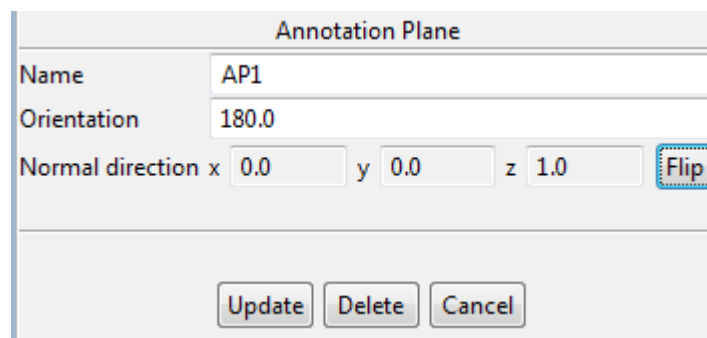

Figure 3. Annotation plane wizard dialogue to update annotation plane with pressed Flip button
- Select an annotation plane entry in the  **GD&T** view table. The **Annotation Plane** wizard dialogue appears under the table in the details area (see Figure 3).